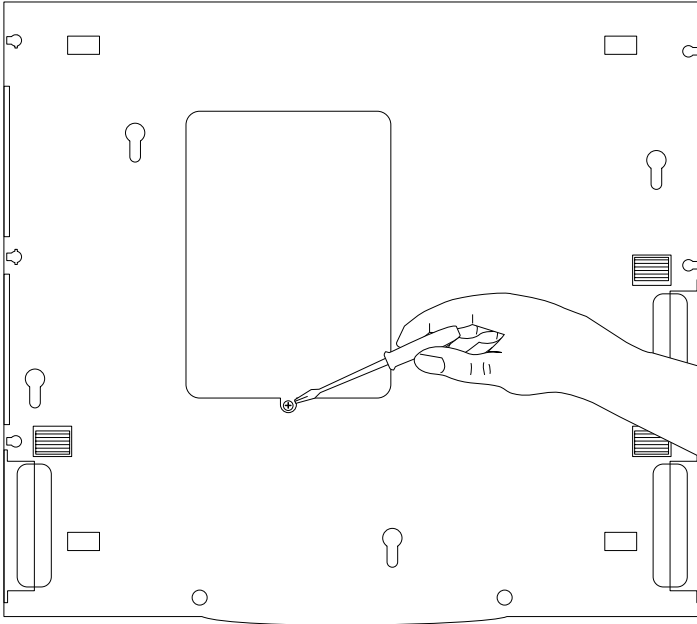

Figure 3-11 Removing the Memory Cover
4. Using a small Phillips screwdriver, remove the memory access cover as shown in Figure 3-11.